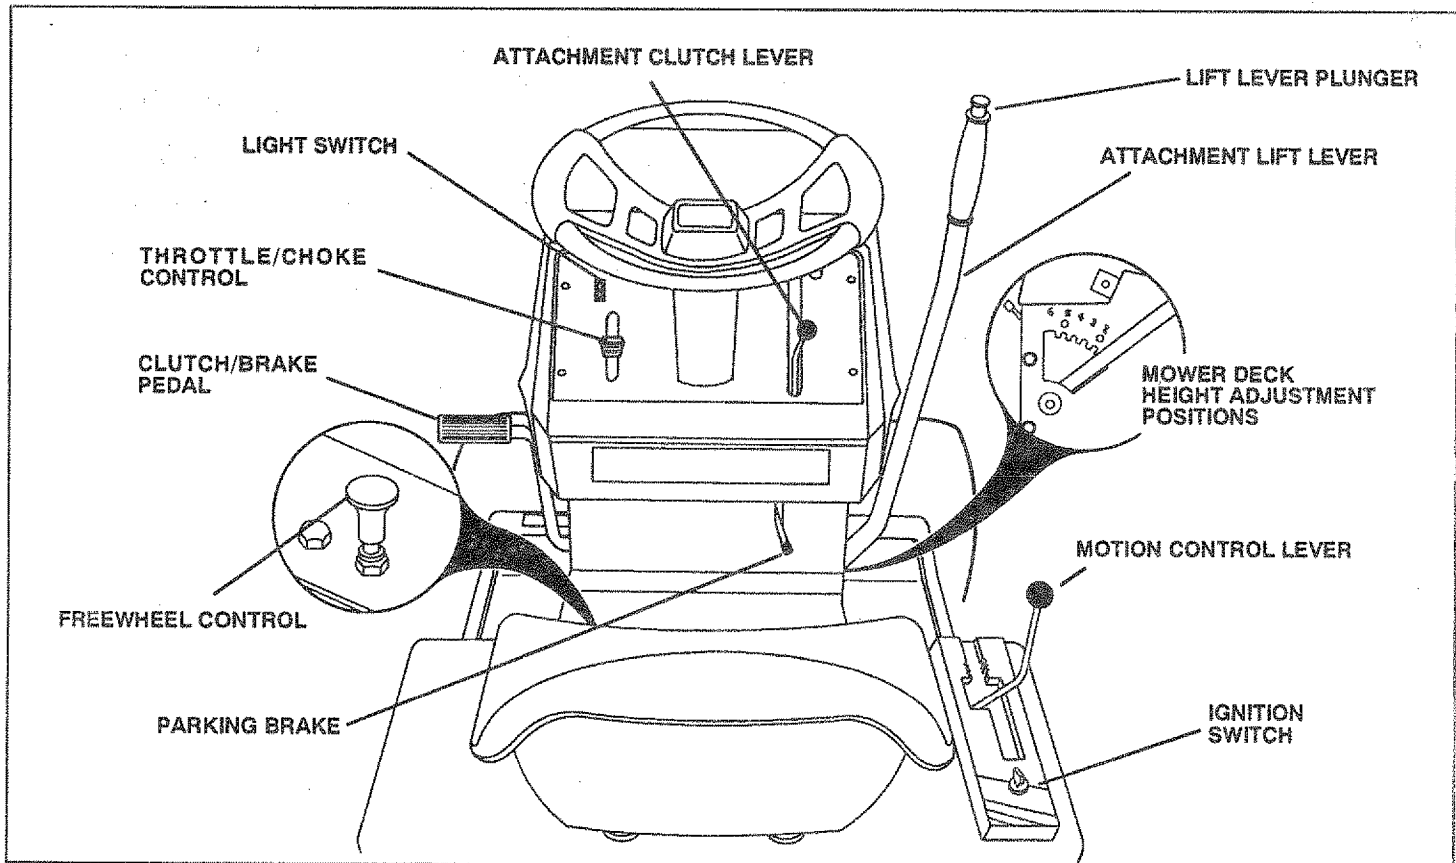

FIG. 6
(See Fig. 6)
- Slide seat until a comfortable position is reached which allows you to press clutch/brake pedal all the way down (See Fig. 6).
TO MOVE FORWARD AND BACKWARD (See Fig. 6)
TO ADJUST MOWER CUTTING HEIGHT (See Fig. 6)
- Pull freewheel control knob up to disengage transmission (See Fig. 6).
- Do not push or tow unit at more than five (5) MPH.